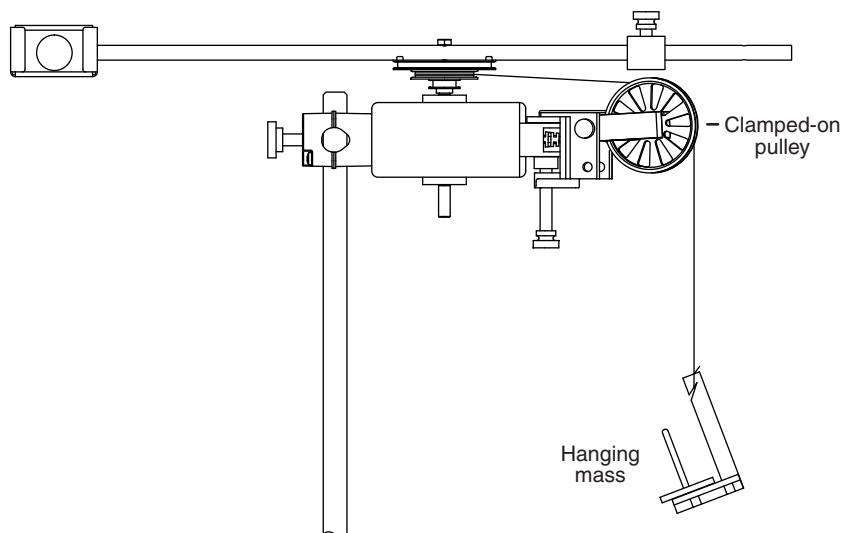

Figure 3.3: Setup for determining rotational inertia
- Clamp the RMS on the mounting rod so that the pendulum can rotate in a horizontal plane (see Figure 3.3).
- Clamp a pulley to the RMS and set up a string and hanging mass (approximately 20 g to 30 g) as shown in Figure 3.3. Wind the string a few times around the middle step of the three-step pulley. Adjust the angle and height of the clamped-on pulley so that the string will unwind and run over the pulley with as little friction as possible.